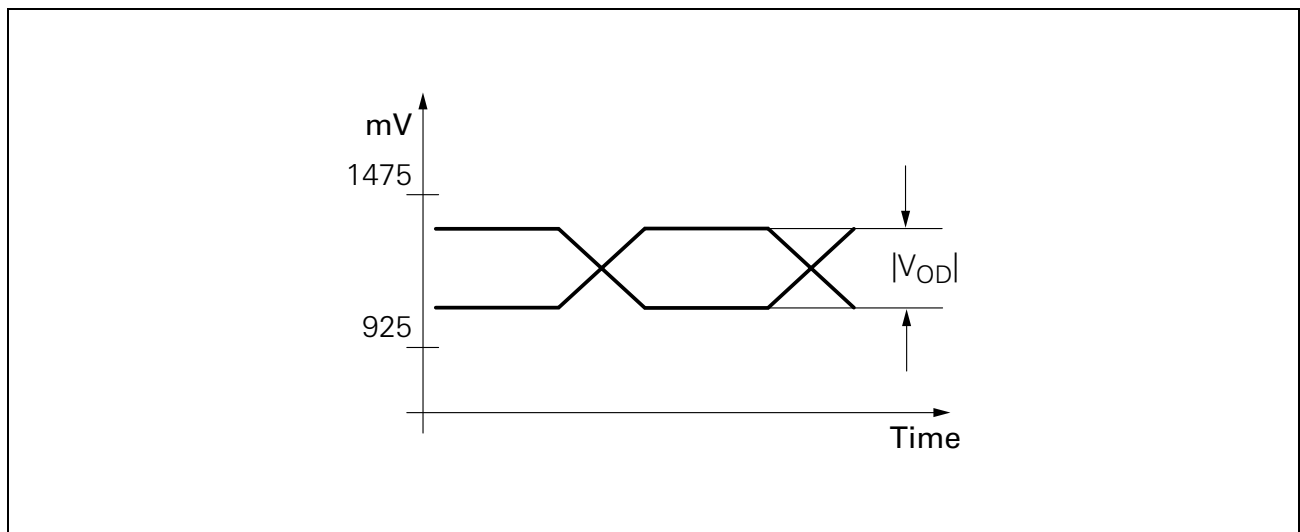

Figure 8 Output Level Diagram
- 1) Output level diagram: see **Figure 8**.